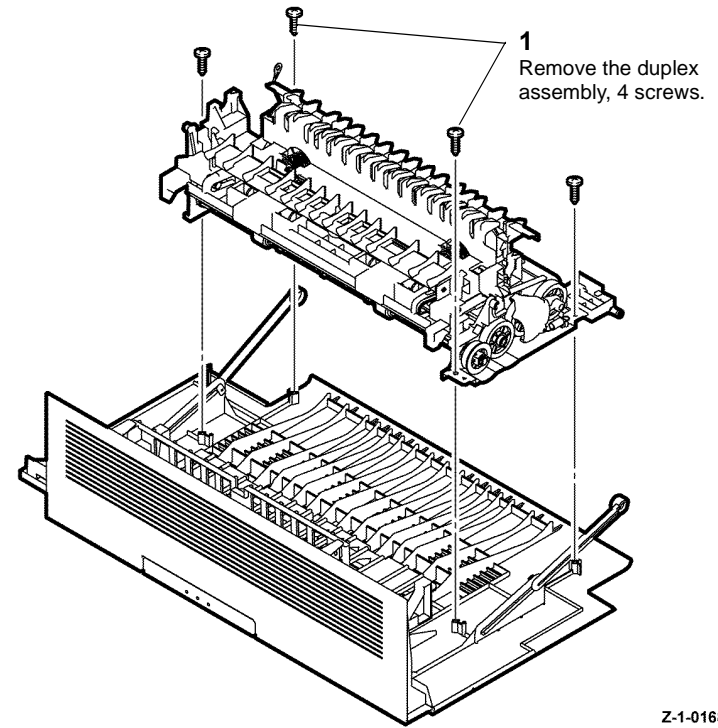

Figure 4 Duplex assembly
9. Remove the duplex assembly, Figure 4.